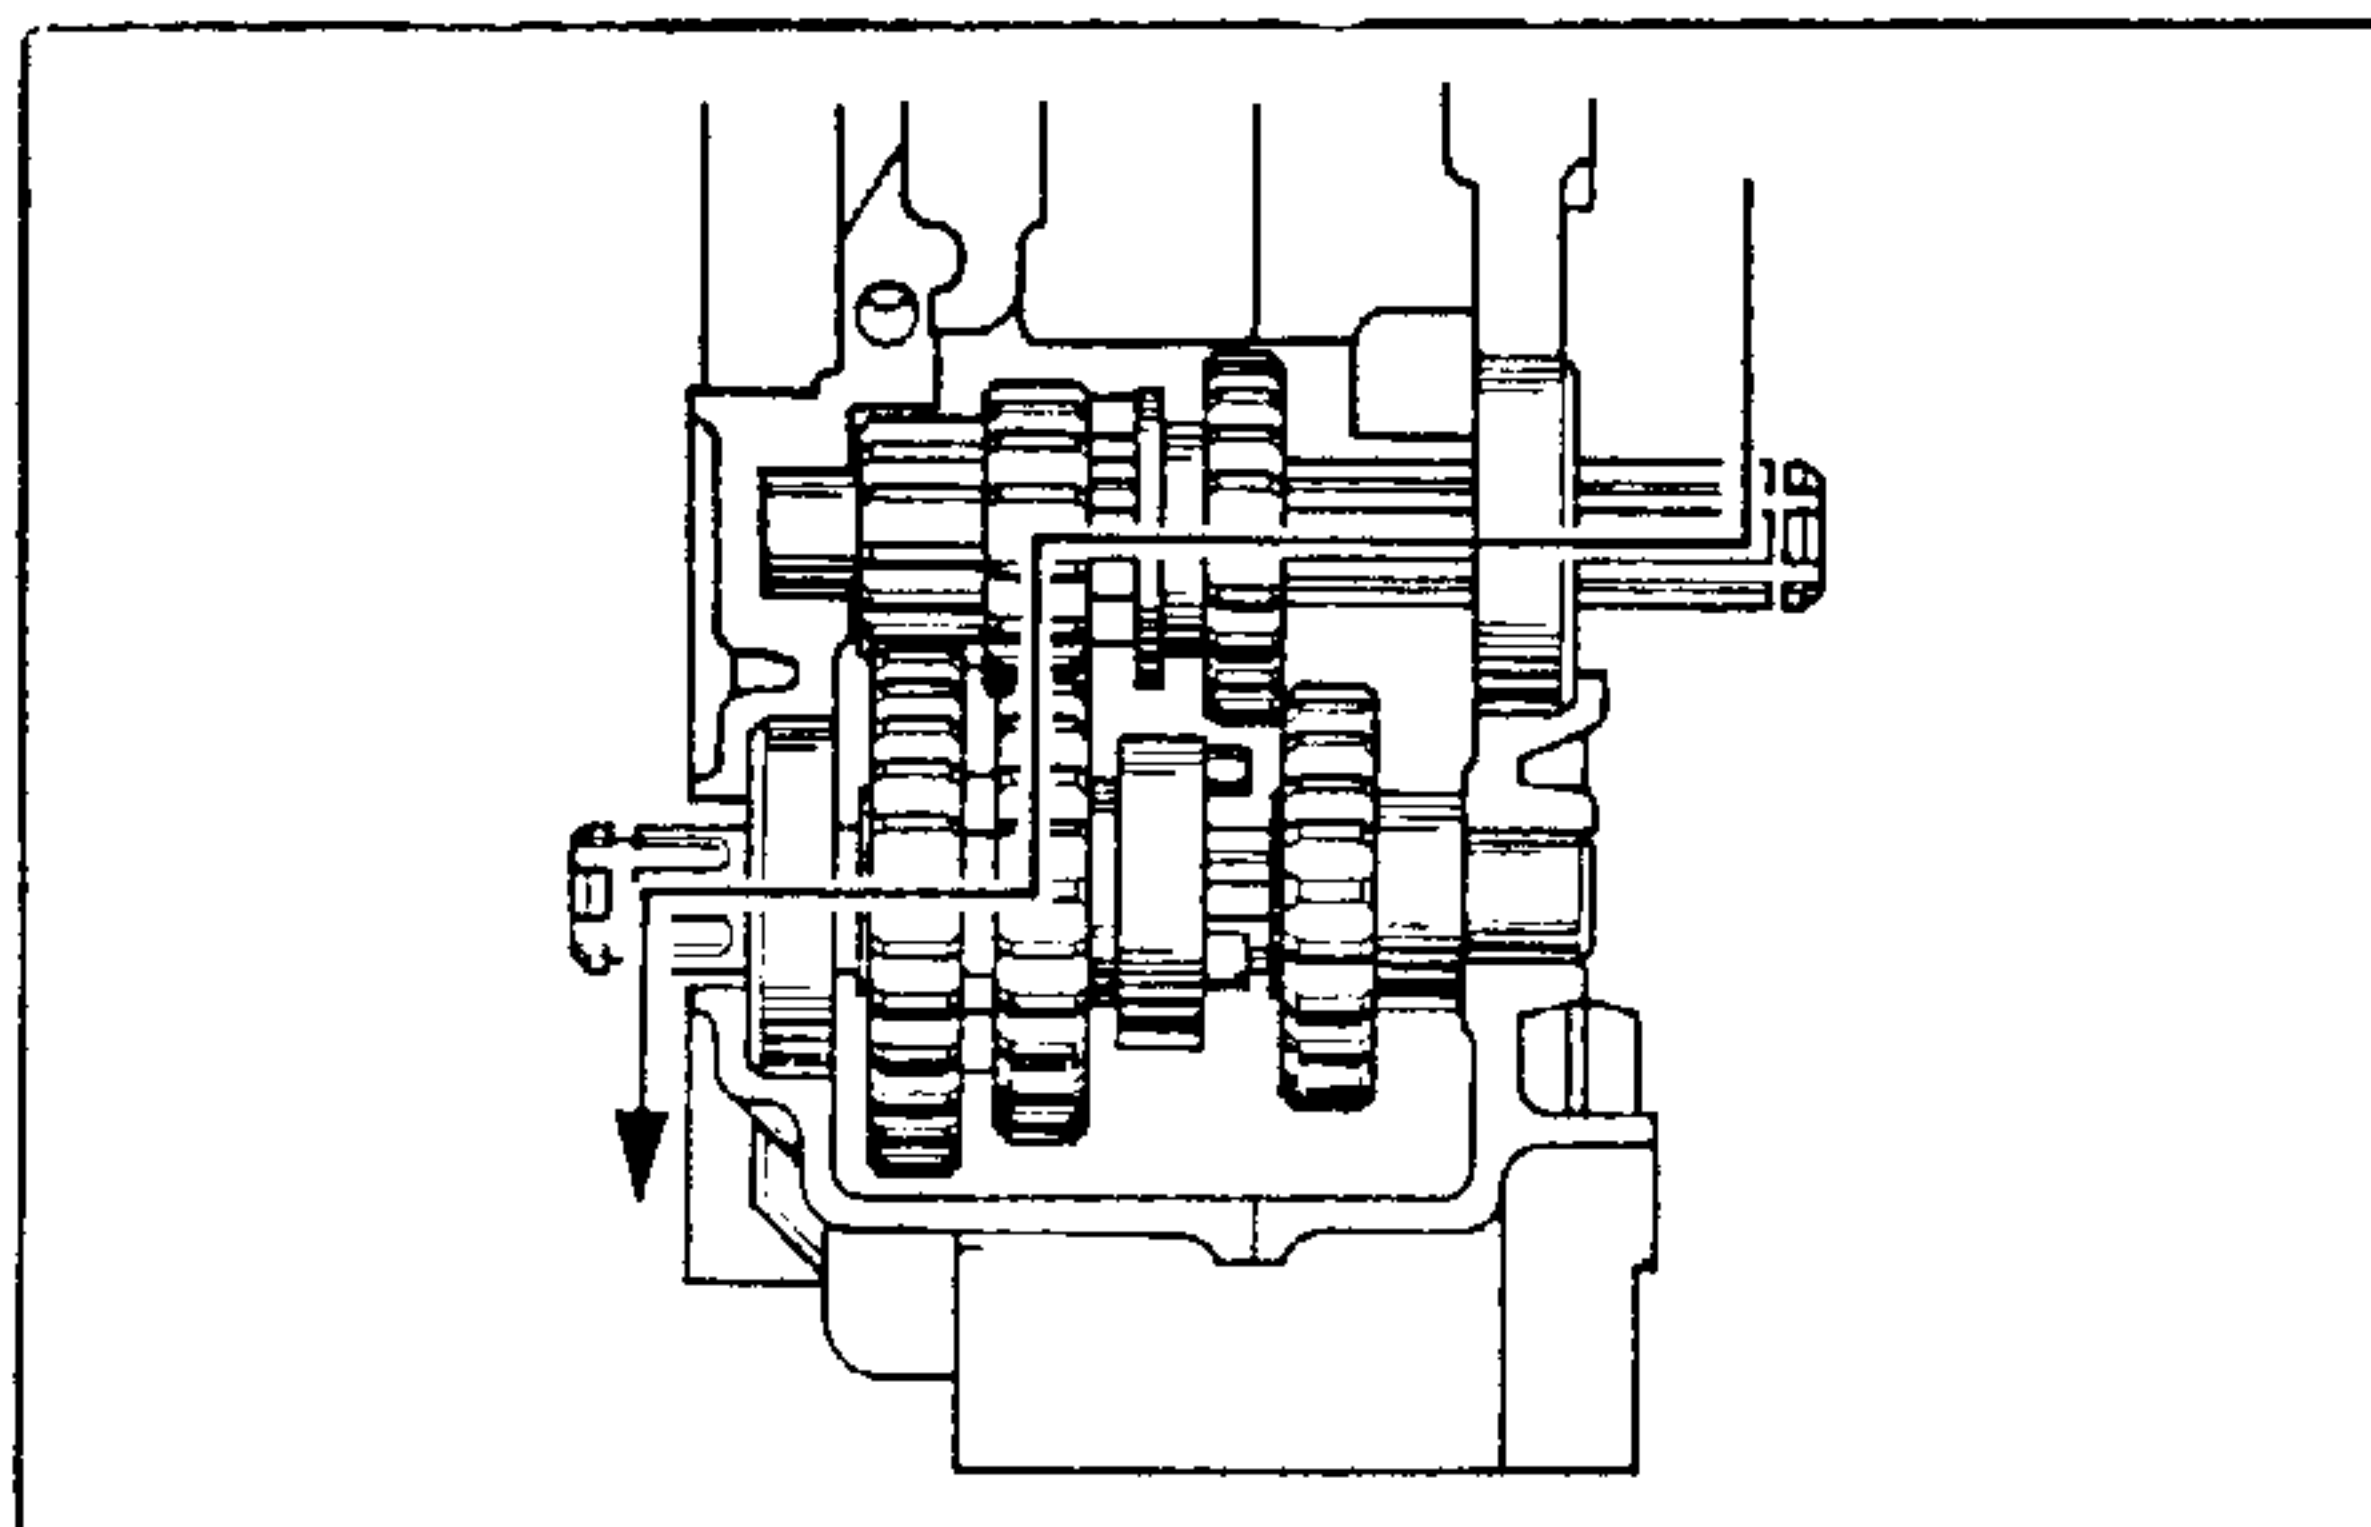

Fig. 47 Second gear position
1. Note the right position of each component referring to Fig. 47~50.